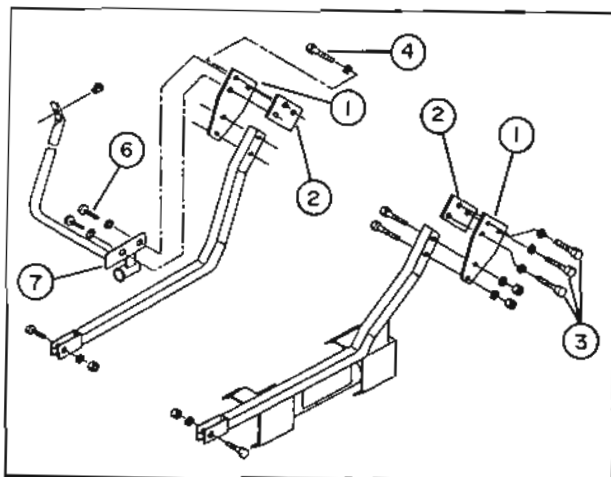

FIGURE 3
- **B1550 & B1750:** Use brackets without weldment (fig.3, item 1). If tractor is equipped with hydrostatic transmission use shims (fig.3, item 2). Attach one bracket on left hand side on welded channel using three 10mm x 35mm bolts (fig.3, item 2) and lockwashers. Attach other bracket on right hand side on welded channel using one 10mm x 35mm bolt (fig.3, item 3) and lockwasher in upper hole, and attach rotation support (fig.3, item 4) to other two holes using two 10mm x 40mm bolts (fig.3, item 5) and lockwashers. Do not tighten.